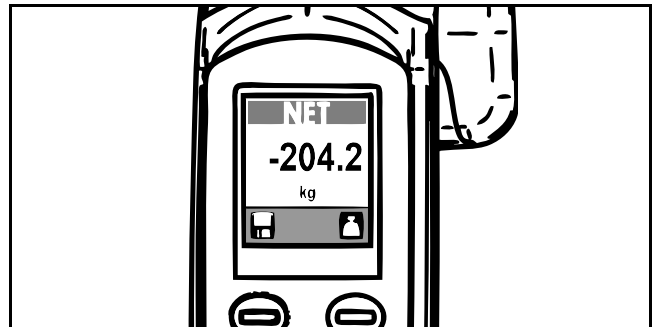

Fig. 66
- 2) Complete the transfer of the patient and remove the patient from the lift. The scale will display a negative number (see Fig. 66).